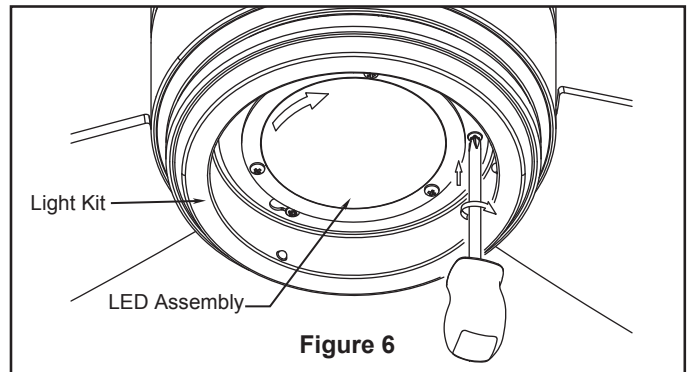

Figure 6
6. Assemble the LED assembly to the light kit using the two key slots. Replace the removed screw from Step 3 and secure all three screws. (Figure 6)